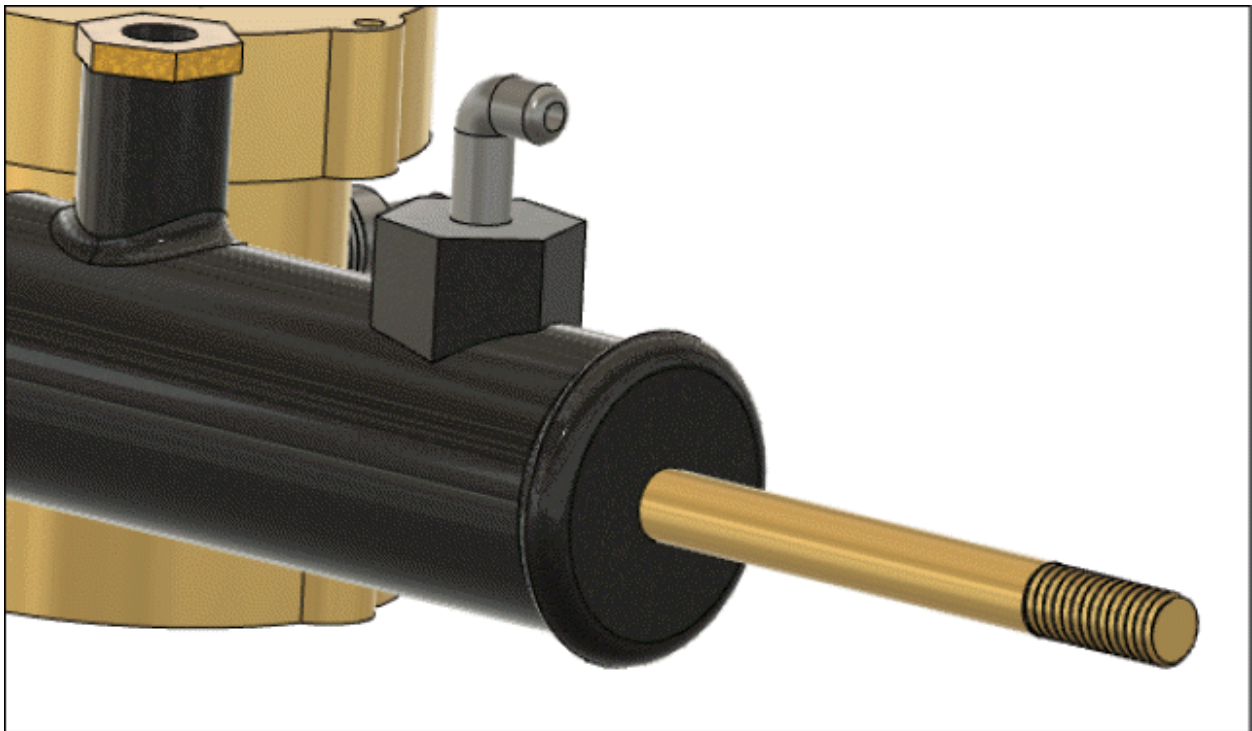

Figure-95. Components joined
- On selecting snap point on second component, both the components will be joined; refer to Figure-95.